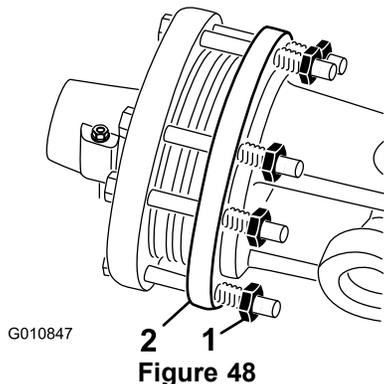

Figure 48
1. At the end of the season, back off each of the clutch nuts 2 turns (Figure 48).